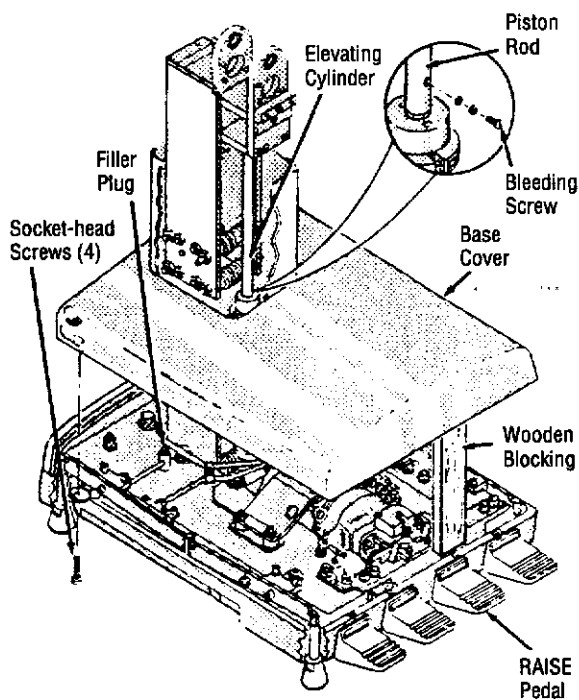

Figure 6-5. Hydraulic System
3. Check oil level and lubricate caster assemblies (see Figure 6-5) as follows:
- c. Loosen bleeding screw (see Figure 6-5 inset) and depress the RAISE pedal. Allow fluid to flow until all trapped air has escaped. Tighten the screw; be sure it is completely recessed in piston rod.